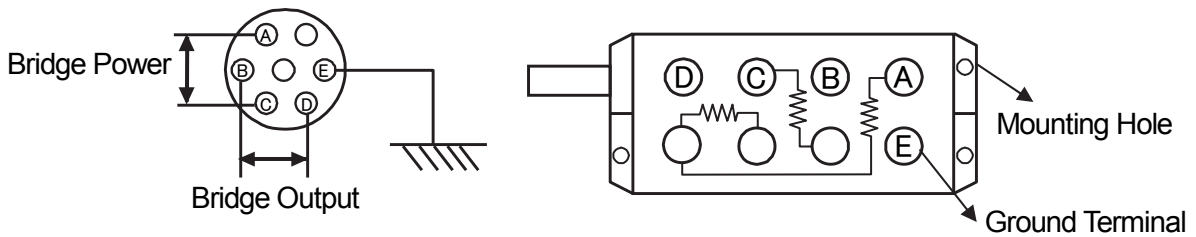

Fig.4-1 Overview of bridge box
- a. As shown in Fig. 4.1, pins A and C are provided for the bridge power supply, and pins B and D are provided for the input to the amplifier unit. Pin E is the common terminal.